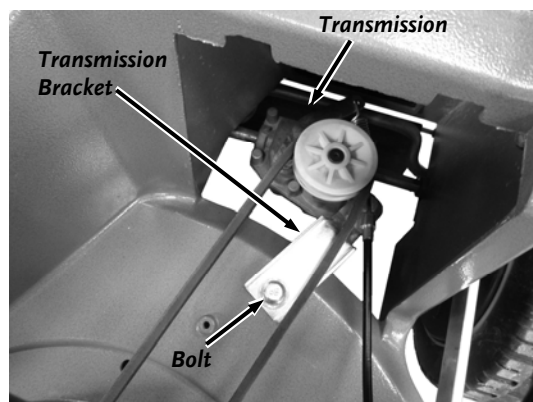

Figure 25
2. Remove the Transmission Bracket Bolt using a 12mm Wrench (**Figure 25**).